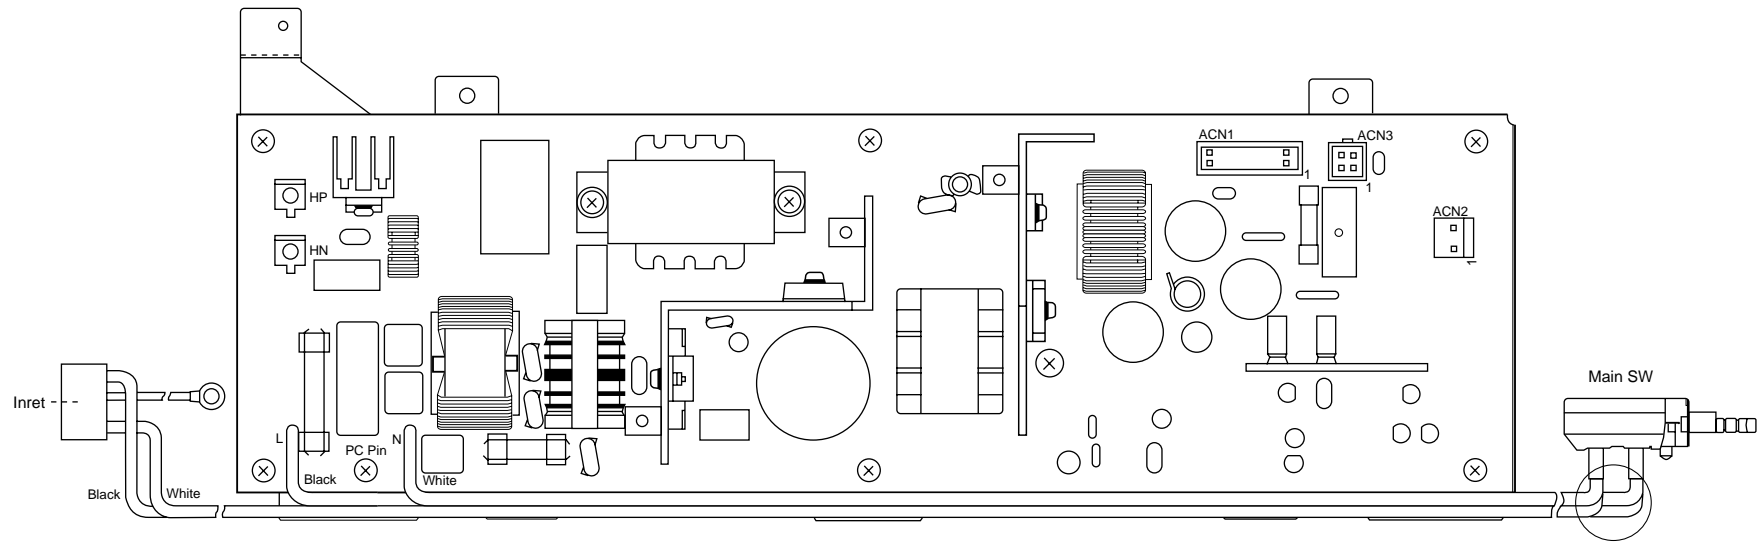

Fig.4-37
②. Layout of Connector Pin Assignment(Fig.4-37)